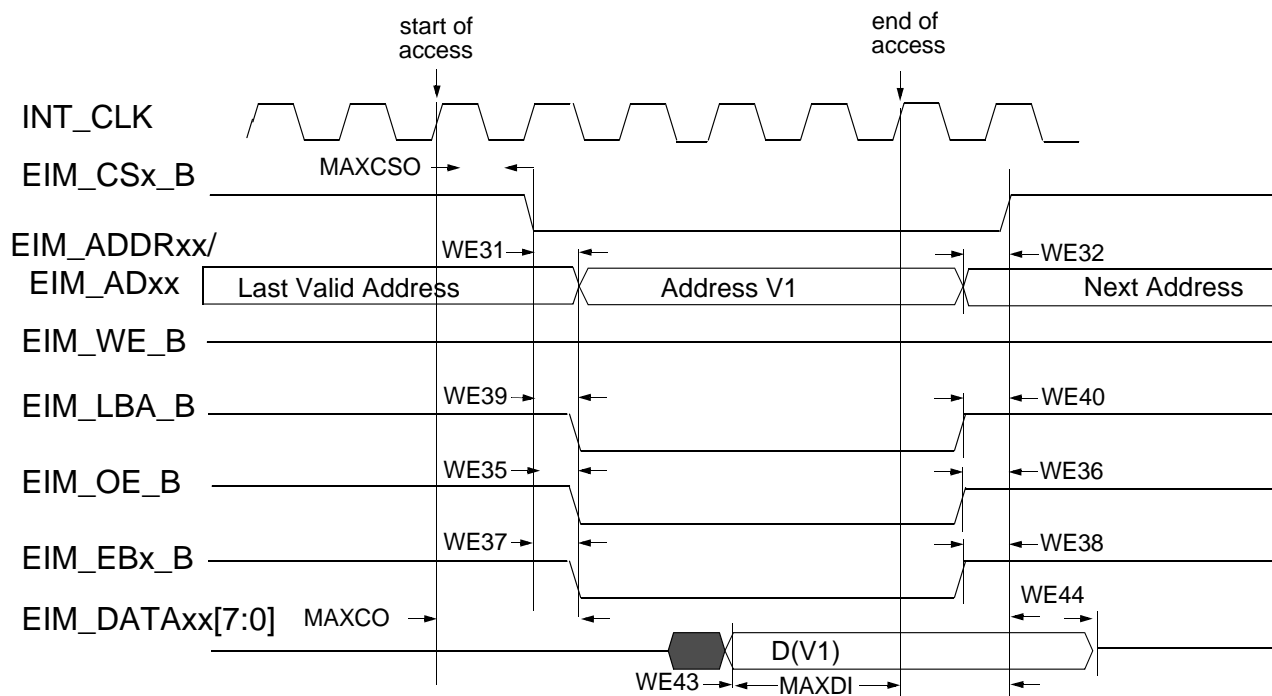
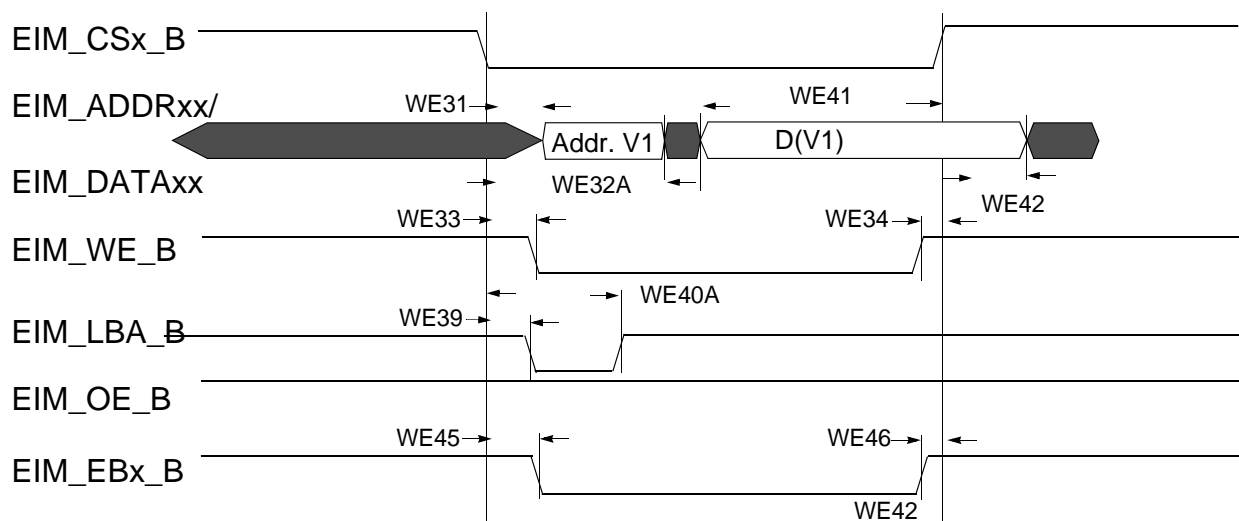
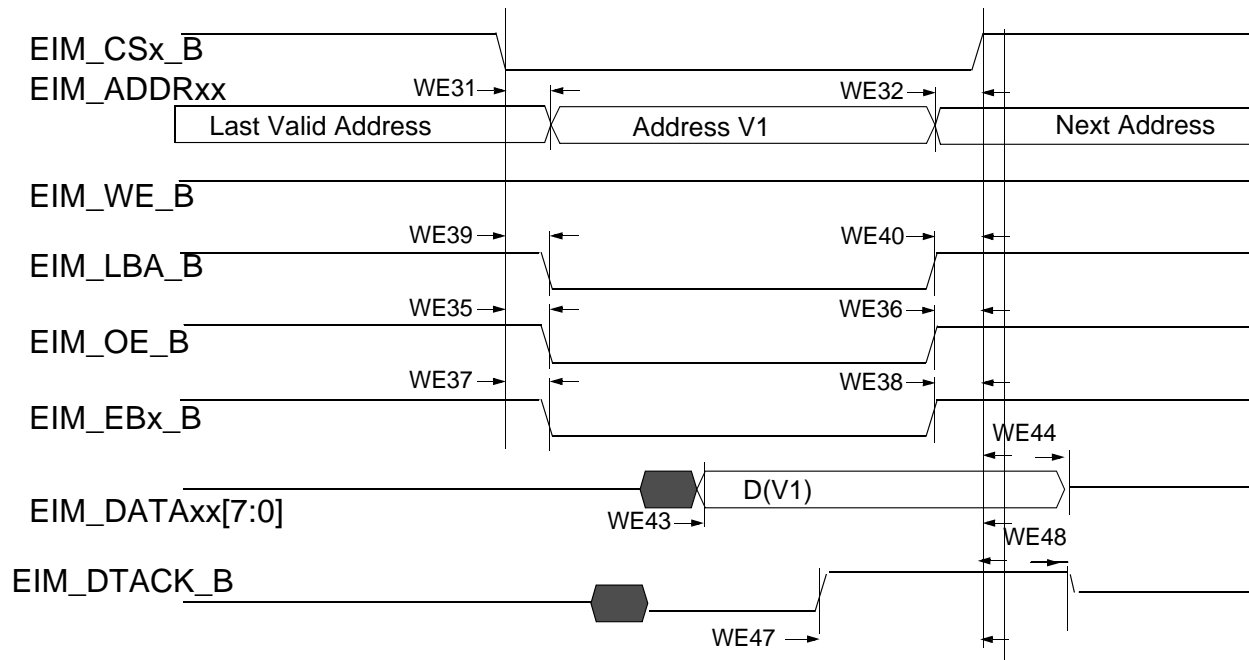

Figure 19. Asynchronous Memory Read Access (RWSC = 5)
Figure 22. Asynchronous A/D Muxed Write Access
Figure 23. DTACK Mode Read Access (DAP=0)
Figure 19 through Figure 23, and Table 42 help you determine timing parameters relative to the chip select (CS) state for asynchronous and DTACK EIM accesses with corresponding EIM bit fields and the timing parameters mentioned above.
Asynchronous read & write access length in cycles may vary from what is shown in Figure 19 through Figure 22 as RWSC, OEN and CSN is configured differently. See the *i.MX 6Solo/6DualLite Reference Manual (IMX6SDLRM)* for the EIM programming model.